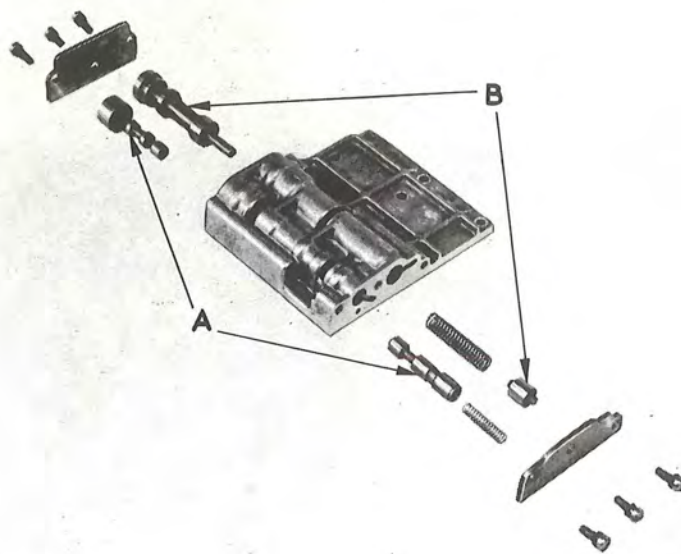

Fig. 4-84. Upper valve body
15. Remove the six screws and end plate from the upper valve body, see Fig. 4-84. Remove the following parts from the rear end of the body: shift valve 2—3, inner spring and plunger together with shift valve 1—2. The spring and plunger for shift valve 1—2 are removed in the other direction.